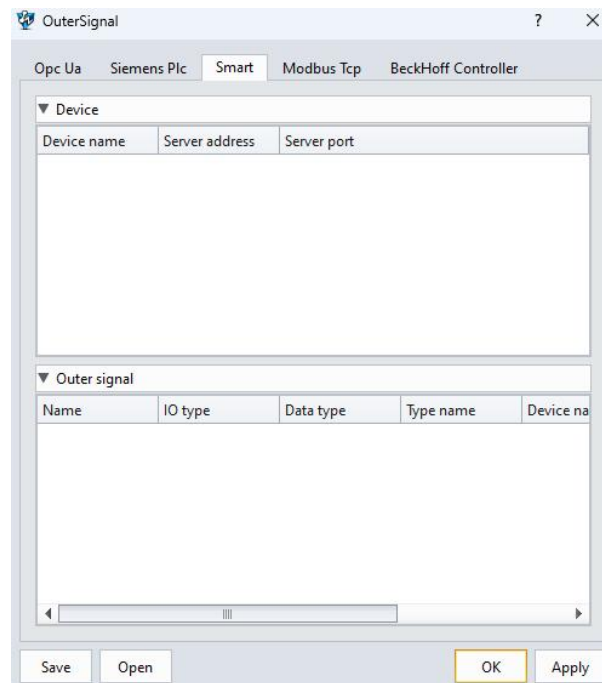

Figure 3-47: Communication Module
- By adding devices, accessing the device server, and controlling internal signals through external signals from the server, communication functions are sequentially achieved. (Figure 3-47)